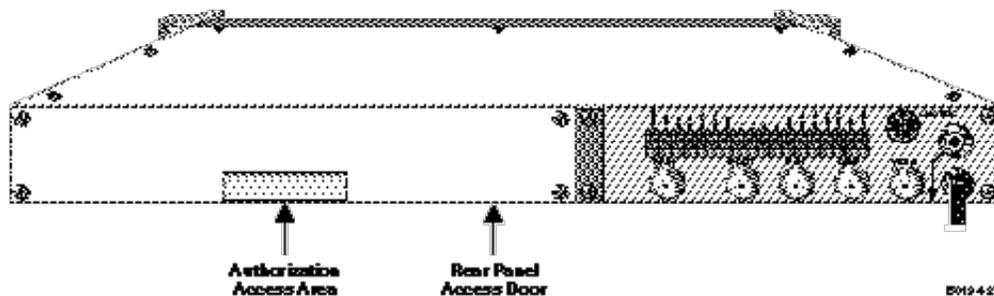

Figure 2-8. The Access Door and Authorization Access Area
1. Remove the four screws securing the rear panel access door and remove the door (see figure 2-8).